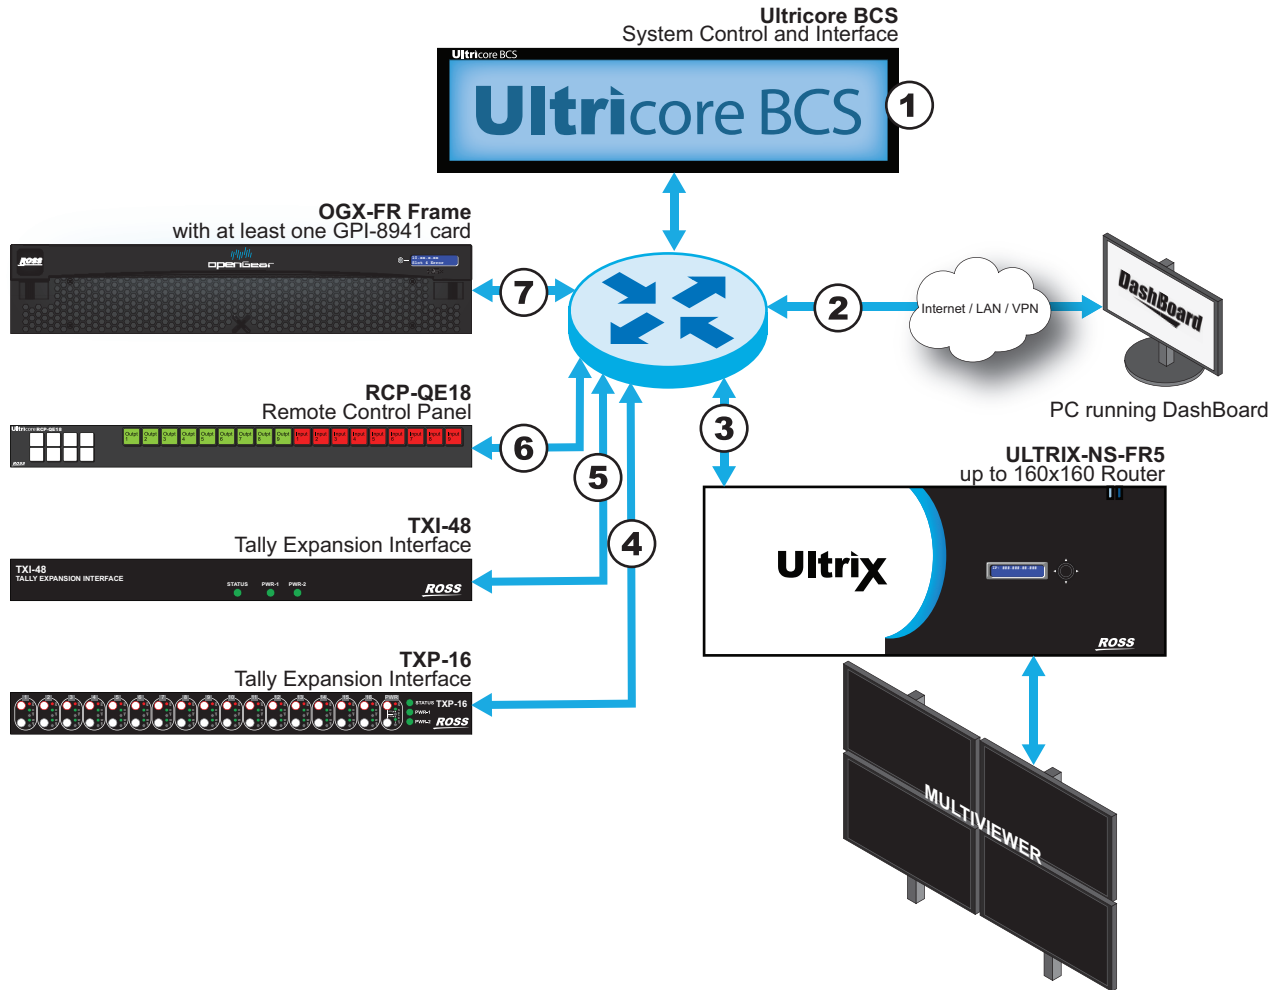

Figure 34 Example Workflow with Ultracore BCS with Ultracore-Tally and Ross Devices
**Figure 34** shows a possible Ultracore-Tally in a workflow with Ross devices.